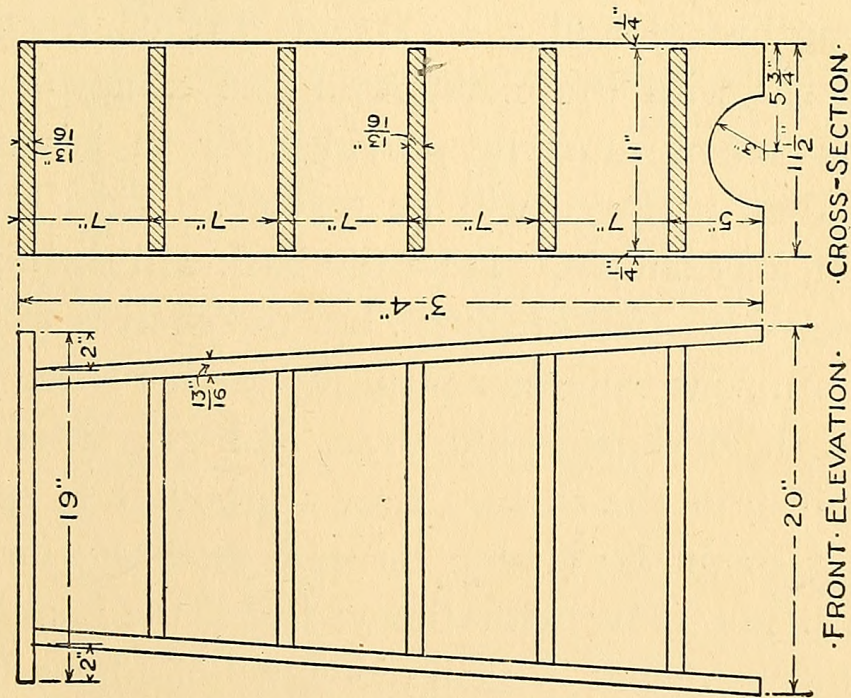

FIG. 135. — Details of Magazine-rack shown in Fig. 131.
**Magazine-racks** made upon the plan of open bookcases, but with the shelves spaced closer together, solve the problem of keeping them within convenient reach and at the same time in a tidy manner. The magazine-rack illustrated in Fig. 131 is shown in detail in Fig. 135. As the ends of this spread out at the bottom, the end pieces and the shelves must have their ends cut off on the diagonal. The way to get the proper angle for trimming off these ends is to lay the end pieces upon the floor on their edges, at the given distances apart, and then tack a strip across the edges near the top and bottom to hold them temporarily in that position. Then place the finished top piece against the tops of the end pieces and you will see just how much trimming they require. If you have a bevel (Fig. 34, page 26), set it to this angle and mark off the ends of each end piece accordingly; also mark off the shelf ends. Without the bevel the work may be done with a square, but be very careful to lay out each end of each piece the same, or the pieces will not fit satisfactorily. The